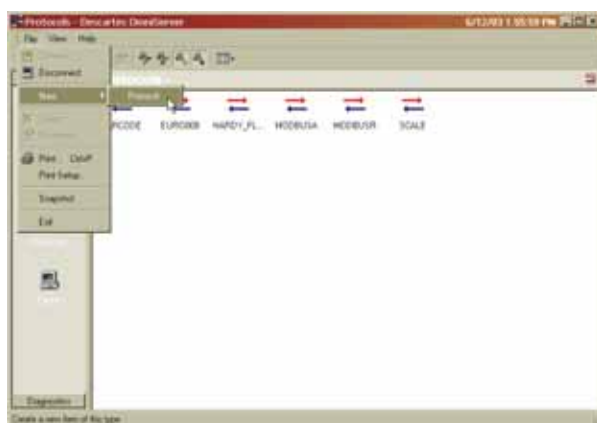

FIG. 191: PROTOCOLS DIALOG BOX
Step 1. Under Configuration, Click on the Protocols Icon. (See Fig. 190) The Protocols dialog box appears. (See Fig. 191)
Step 4. Slide the cursor to the right until the flyout menu appears. (See Fig. 191) Click on Protocols.